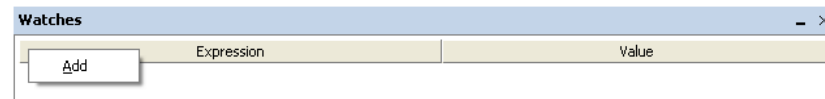

Figure 44. Adding a watch expression via the **Add** menu item.
2. Right-click on the gray bar, like in Figure 44, and click **Add**.